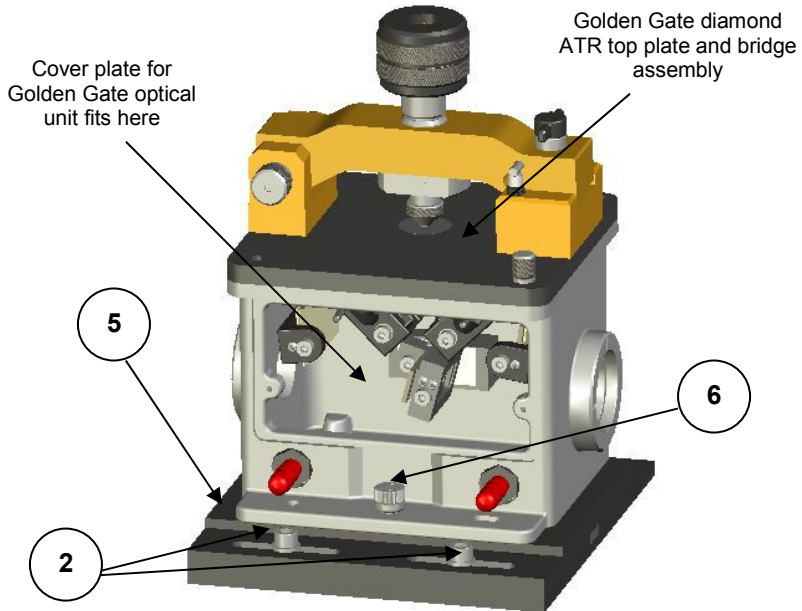

Figure 3. Front view of Golden Gate™ Imaging ATR on Benchmark™ baseplate with cover plate removed to show optical components.
Procedure One is used for installation when the Golden Gate™ Imaging ATR has been supplied from Specac Ltd as a new item and is already laser beam aligned for installation into the optical bench. From this point it should require minimal adjustments of some of the optical components in the optical unit for fine tuning to the specific optical bench. A specific version of Benchmark™ type of baseplate is supplied with the Golden Gate™ Imaging ATR (**customer unit**) for installation into the Varian spectrometer sample compartment. (See Figure 3.) The Golden Gate™ optical unit affixes to the Benchmark™ baseplate (5) support by a single front thumbscrew (6).
(Please see diagram Figures 3 and 4 for reference to the procedure description).